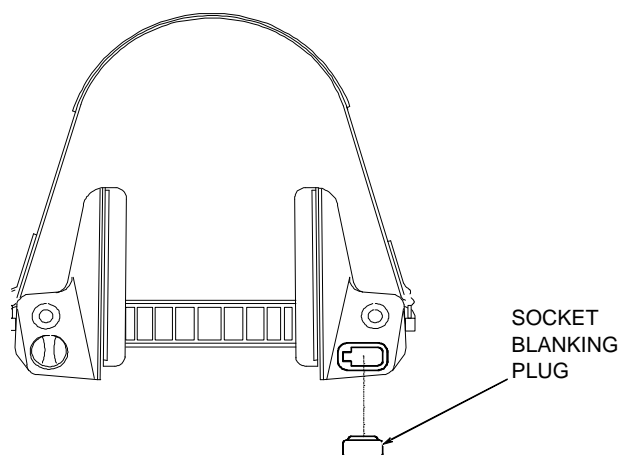

Figure 3-26. Socket Blanking Plug (CAPS Type 1)
3.9.9. Socket Blanking Plug Removal and Replacement (CAPS Type 1) (Fig. 3-26)
If the socket blanking plug is deteriorated or missing replace as shown in Fig. 3-26.